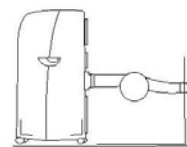

FIG. 7
- If the exhaust pipe has to be bended it should be proceeded as shown on : Fig. 7